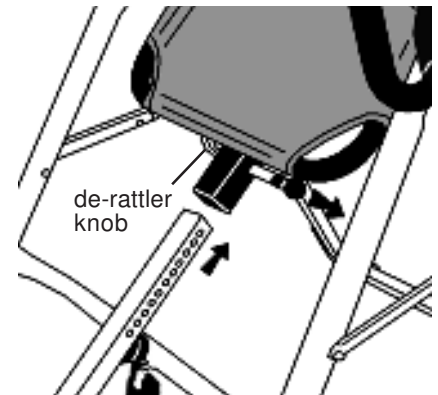

Figure 6
- With the height adjustment settings on the main shaft facing up, slide the end of the main shaft into the blue bushing in the main shaft housing. (See Figure 6)